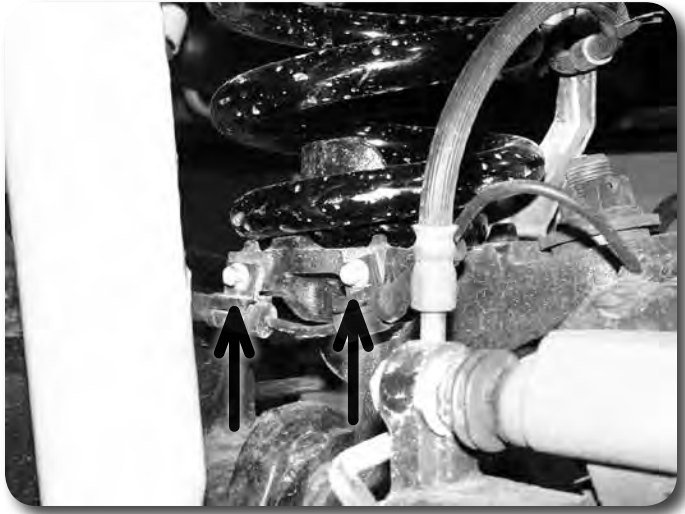

Figure 3
10. Remove the two bolts mounting the plastic ABS wire clips to the back side of the coil perch (Fig 3). Retain hardware.